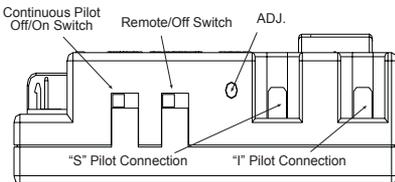

Figure 32 - Gas Module Right Side
1. There is a switch located on the right side of the module that reads CONTINUOUS PILOT ON/OFF. This switch selects the pilot's mode of operation (Figure 32).